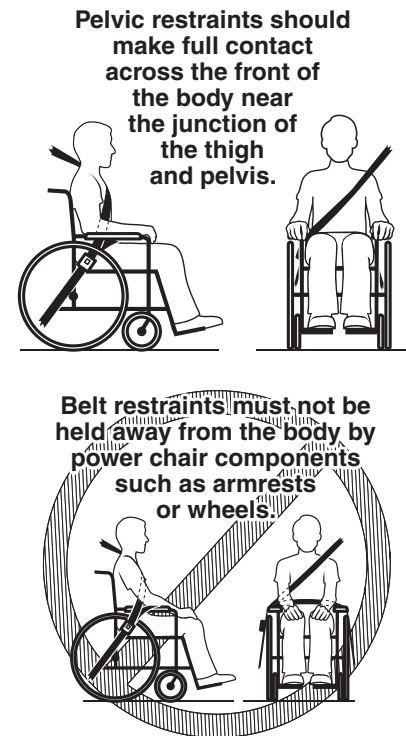

Figure 12. Proper Pelvic Belt Placement
- Some power chair components, like armrests and wheels, can interfere with proper belt fit. It may be necessary to insert the belt between the armrest and the seatback or through openings between the backrest and seat in order to avoid placing the pelvic belt over the armrest. **See figure 12.**